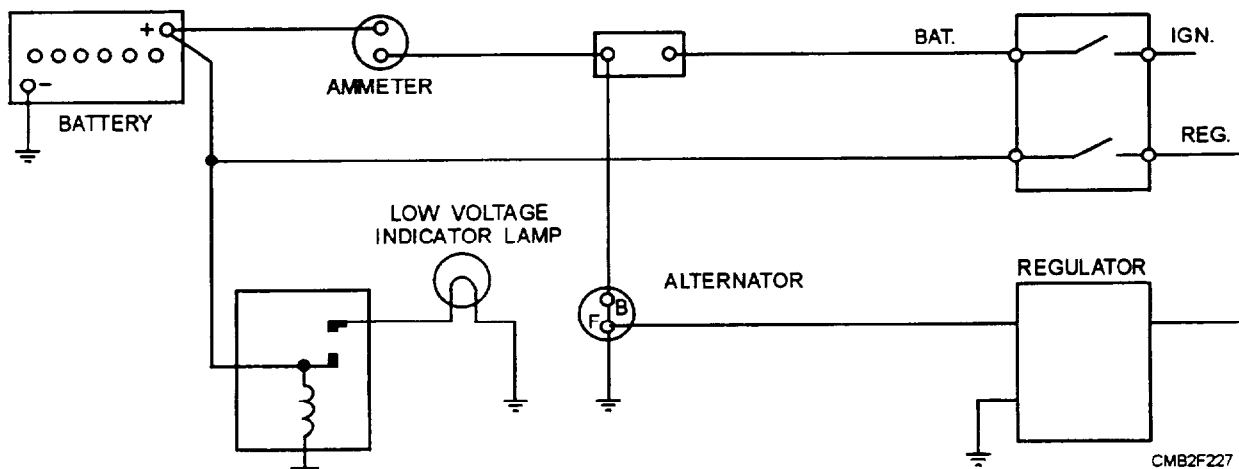

Figure 2-75.—Low voltage warning lamp schematic.
1. LOW VOLTAGE WARNING LAMP (fig. 2-75) is set up to warn the operator whenever the electrical system voltage has dropped below the normal operational range.